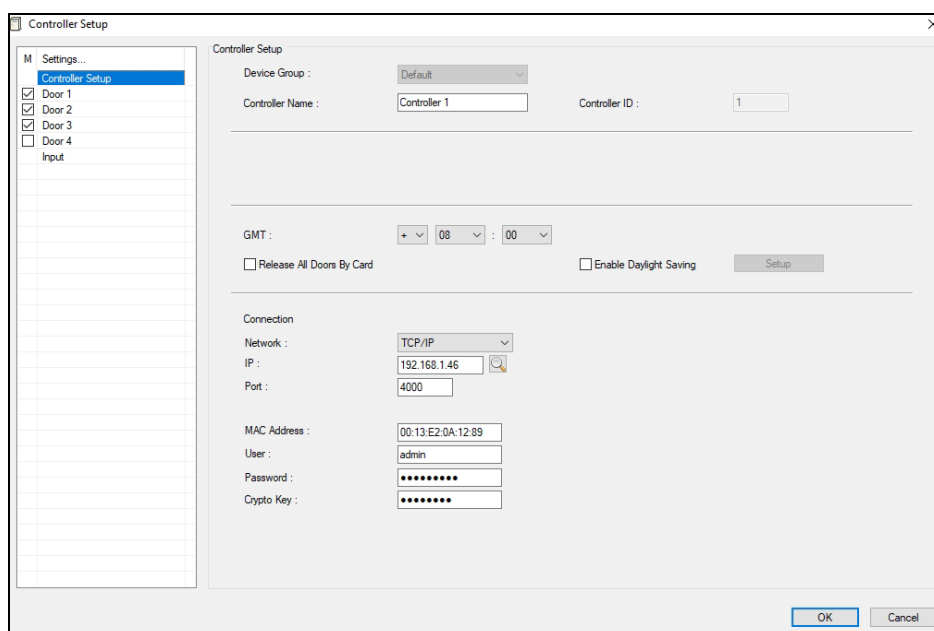

Figure 4-4
- **Card or Common Mode:** This mode requires the user to present the card **or** enter the door's common password (see Figure 4-4), plus # to enter the setting, using the keypad.